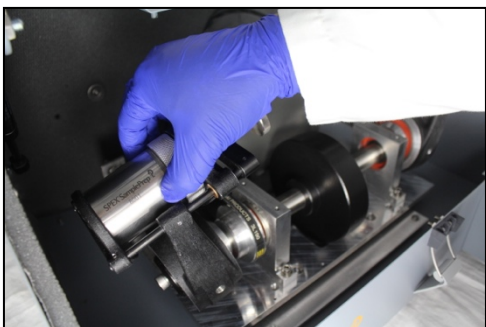
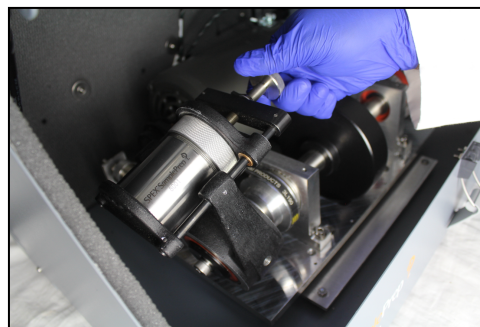

Figure 4 – Placing Vial in Clamp
Figure 5 – Tightening the Clamp
2. After loading the vial with the sample to be mixed or ground, place it in a clamp, as shown in Figure 4. Tighten the clamp with the knob (Figure 5), and lock the clamp with the locking tab. Close the lid and fasten with the manual latch.